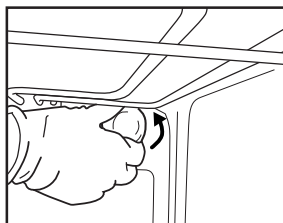
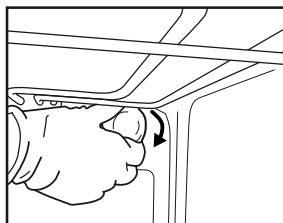

Fig. 6
Fig. 7
2. Unscrew the lamp cover (Fig. 6), replace the lamp (see note for lamp type) and screw the lamp cover back on (Fig. 7).